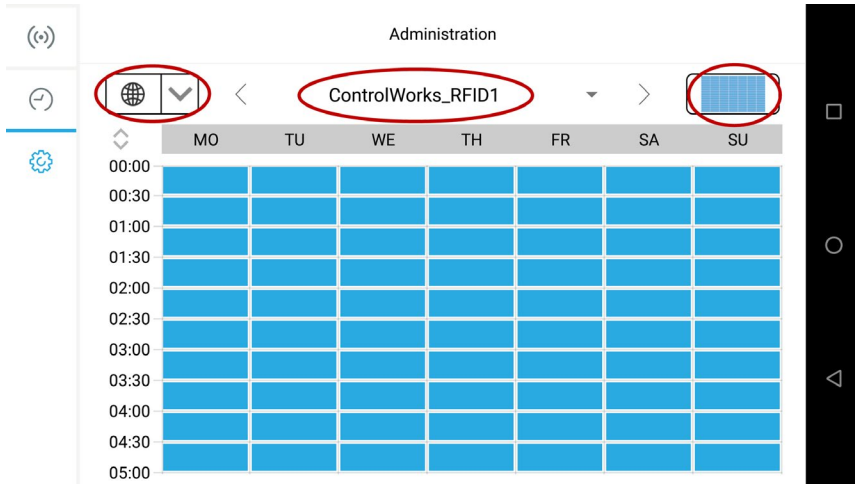

Figure 15 - Adding RFID Favorites to schedule for actions
- Next tap the bell icon, and tap the globe icon for HTTP Calls (figure 15). In the middle of the page next to globe icon, you will see text appear.